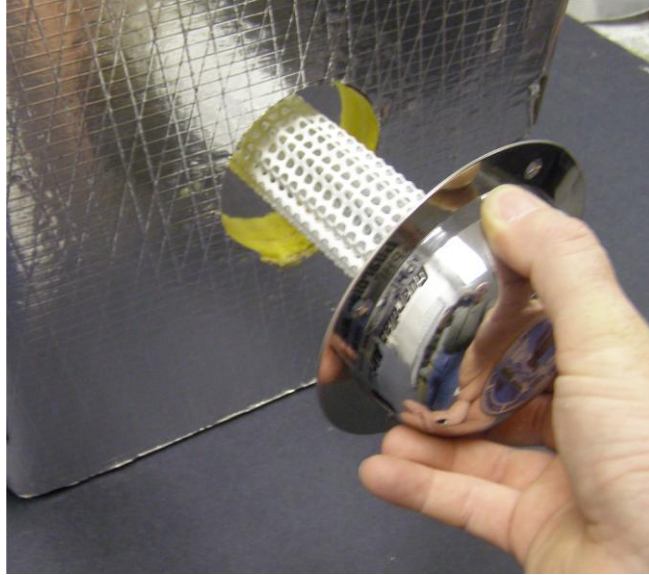

Figure 5
- Insert probe into opening with the “system on” indicator positioned at the bottom (6 o’clock position). Once attached to duct, press firmly all around flange to ensure a proper seal, refer to Figure 5.